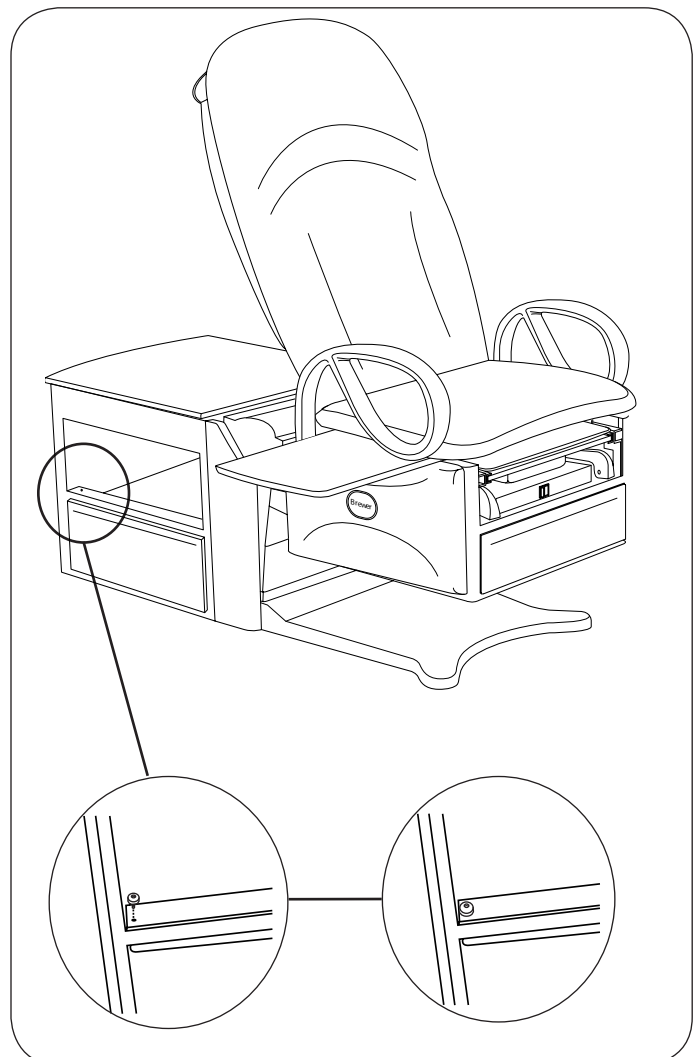

Figure 29.
Two storage drawers are built into the table cabinet for supplies (Figure 29). The drawers may be pulled out from either side of the table.
The Brewer Access High-Low Exam Tables are supplied with two drawer stops for the side pass through drawers. If you wish to restrict the drawers to opening only on one side, simply install one drawer stop per drawer on the opposite side the drawer is to be opened (See Figure 29.)
2. Screw in one drawer stop, one for each drawer on opposite side of cabinet. (Figure 29).